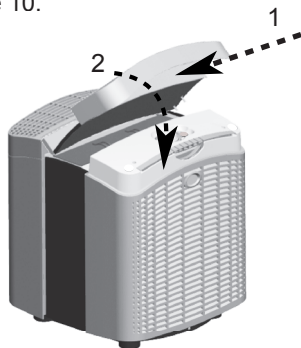

Fig. 10 - Reinstalling the Top Cover
1. Reinstall the Top Cover. Place the Tabs on the back of the Top Cover into the corresponding holes in the Base. Then, move the front of the Top Cover downward. See Figure 10.